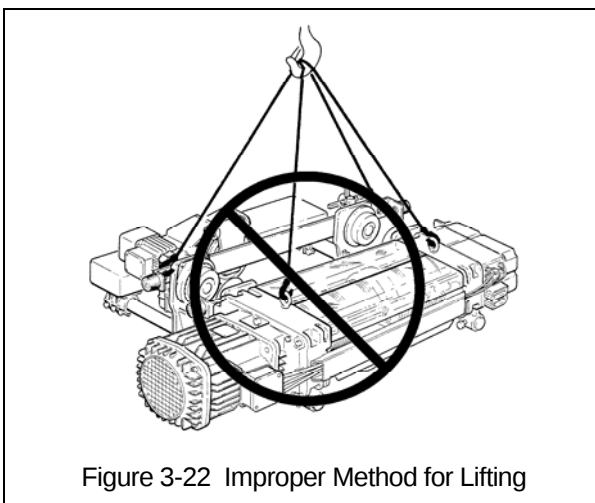

Figure 3-22 Improper Method for Lifting
- 7) **⚠️WARNING** When installing the trolley hoist on a beam, ALWAYS raise the hoist into position with the trolley and hoist assembled together and securely attached to a pallet. Raise the trolley and hoist with a forklift, lifting platform, or other similar means. NEVER use slings to raise and install the trolley hoist onto the beam (see Figure 3-22).